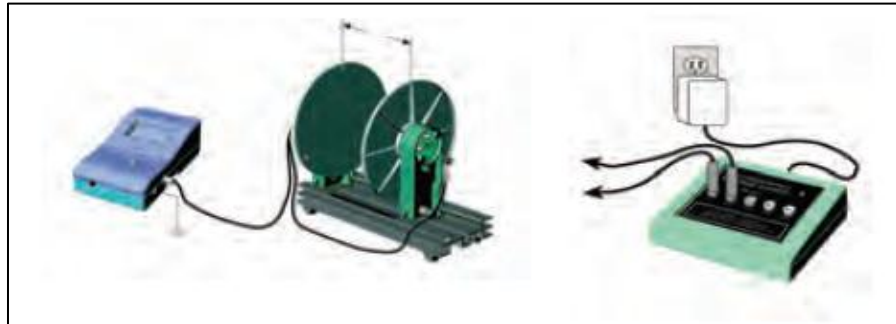

Fig 3.3: Demonstration Setup
1. Figure 3.3 shows the equipment set up. The Parallel Plate capacitor is connected to the electrometer and the electrometer is grounded to earth. The voltage source will be used to only momentarily charge the capacitor.